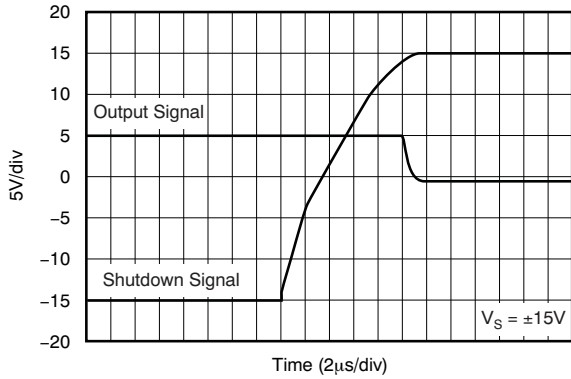

Figure 39. Turnoff Transient
(1) When disabled, the output assumes a high-impedance state.
(2) See Typical Characteristics curves, Figure 39 through Figure 41.
The shutdown (enable) function of the OPA211 is referenced to the positive supply voltage of the operational amplifier. A valid high disables the operational amplifier. A valid high is defined as  $(V+) - 0.35$  V of the positive supply applied to the shutdown pin. A valid low is defined as  $(V+) - 3$  V below the positive supply pin. For example, with  $V_{CC}$  at  $\pm 15$  V, the device is enabled at or below 12 V. The device is disabled at or above 14.65 V. If dual or split power supplies are used, care should be taken to ensure the valid high or valid low input signals are properly referred to the positive supply voltage. This pin must be connected to a valid high or low voltage or driven, and not left open-circuit. The enable and disable times are provided in the Typical Characteristics section (see Figure 39 through Figure 41). When disabled, the output assumes a high-impedance state.